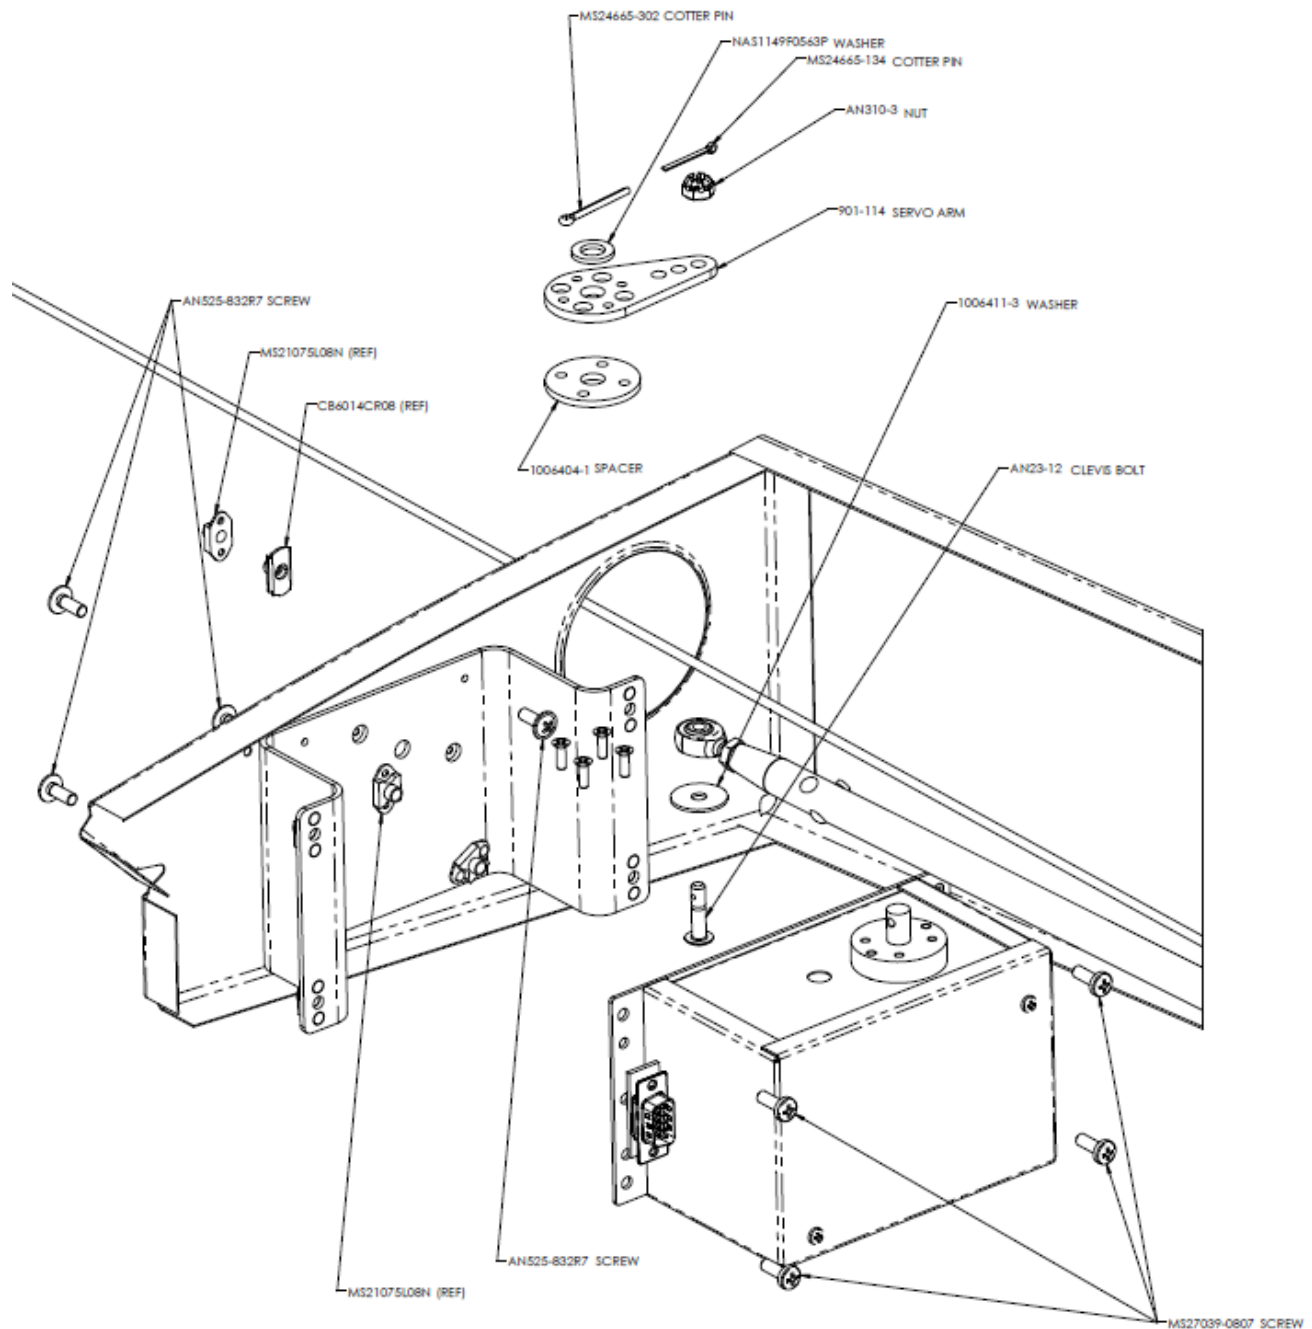

FIGURE 4-4 ROLL SERVO HARDWARE
- 4.1.13 Install the servo on the bracket. For ease of installation, the DB9 servo connection can be made before installing the servo. Refer to Figure 4-4 and Illustrated Parts Catalog Document # 1006907.